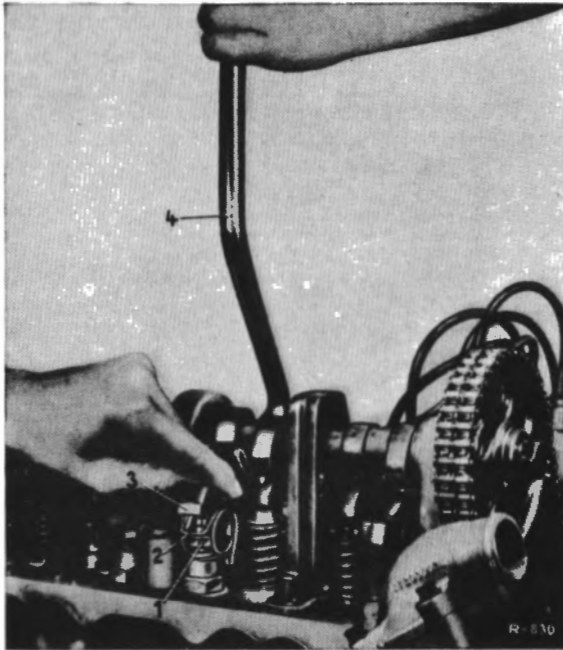

Fig. 05-1/1
1. Press out the spring clamp (2) from the notch at the top of the rocker arm (3) and push the spring clamp outward over the ball cup of the rocker arm (see Fig. 05-1/1).
2. Apply Special Tool (4) 111 589 01 61 to the camshaft and to the valve spring retainer and push the valve downward to relieve the rocker arm (3) (Fig. 05-1/1).
3. Lift the rocker arm (3) out of the ball pin head (1) and remove it (Fig. 05-1/1).